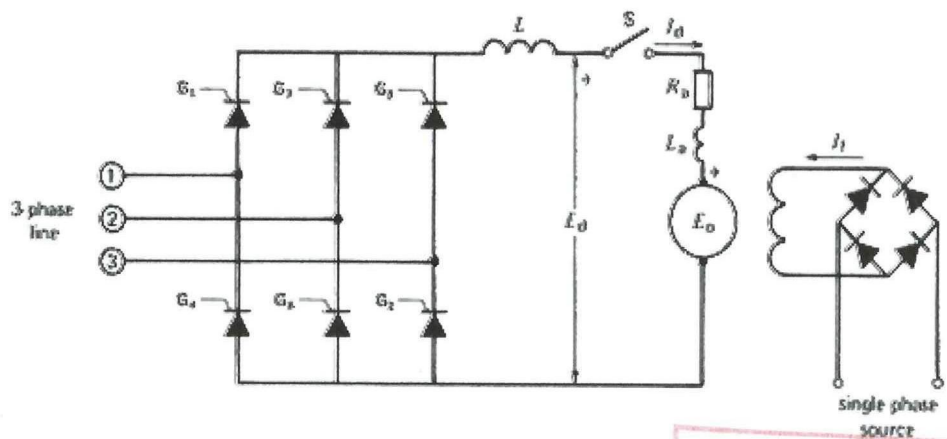

Figure Q5(d)
- (c) Analyse the first operating quadrant of electric drive shown in **Figure Q5(c)**. Hence discuss the armature torque and speed control of a DC motor using electronic converter. (6 marks)
- (d) A 10hp, 240V, 1800 rev/min permanent magnet DC motor has an armature resistance of 0.4Ω and a rated armature current of 35A. It is energized by the converter shown in **Figure Q5(d)**. If the AC line voltage is 208 V, 60 Hz and the motor operates at full-load, calculate :